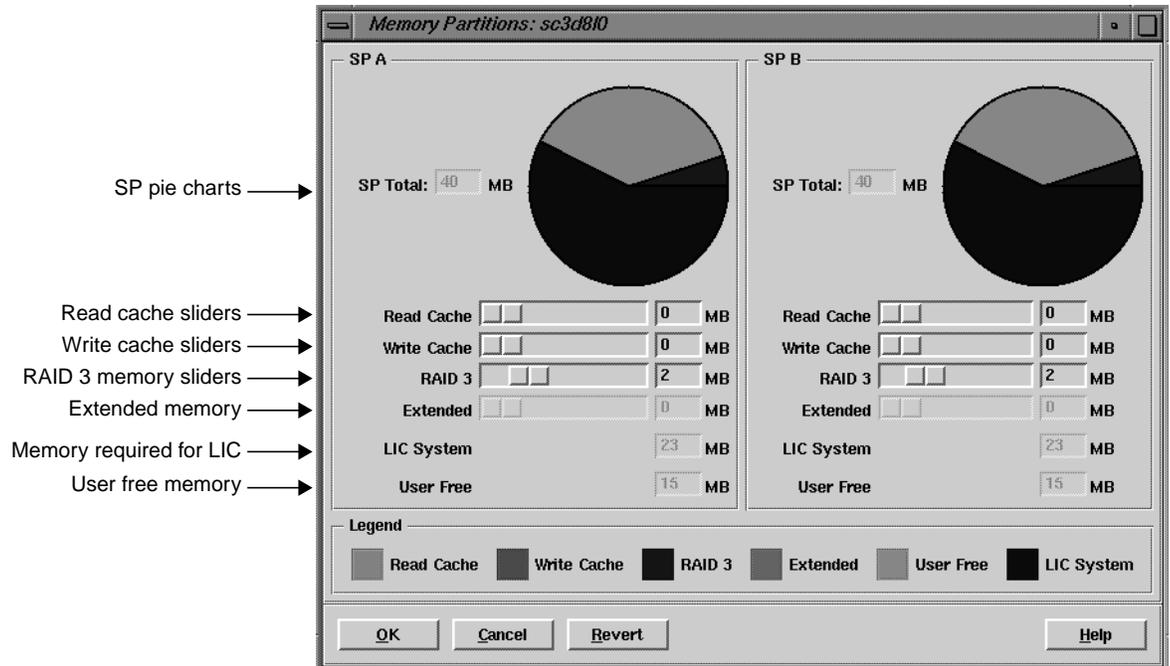

Figure 2-10 Memory Partition Window
- In the Array Configuration window, click the partition memory button, or choose Partition Memory from the Array menu. The Memory Partitions window for the array opens, as shown in Figure 2-10.